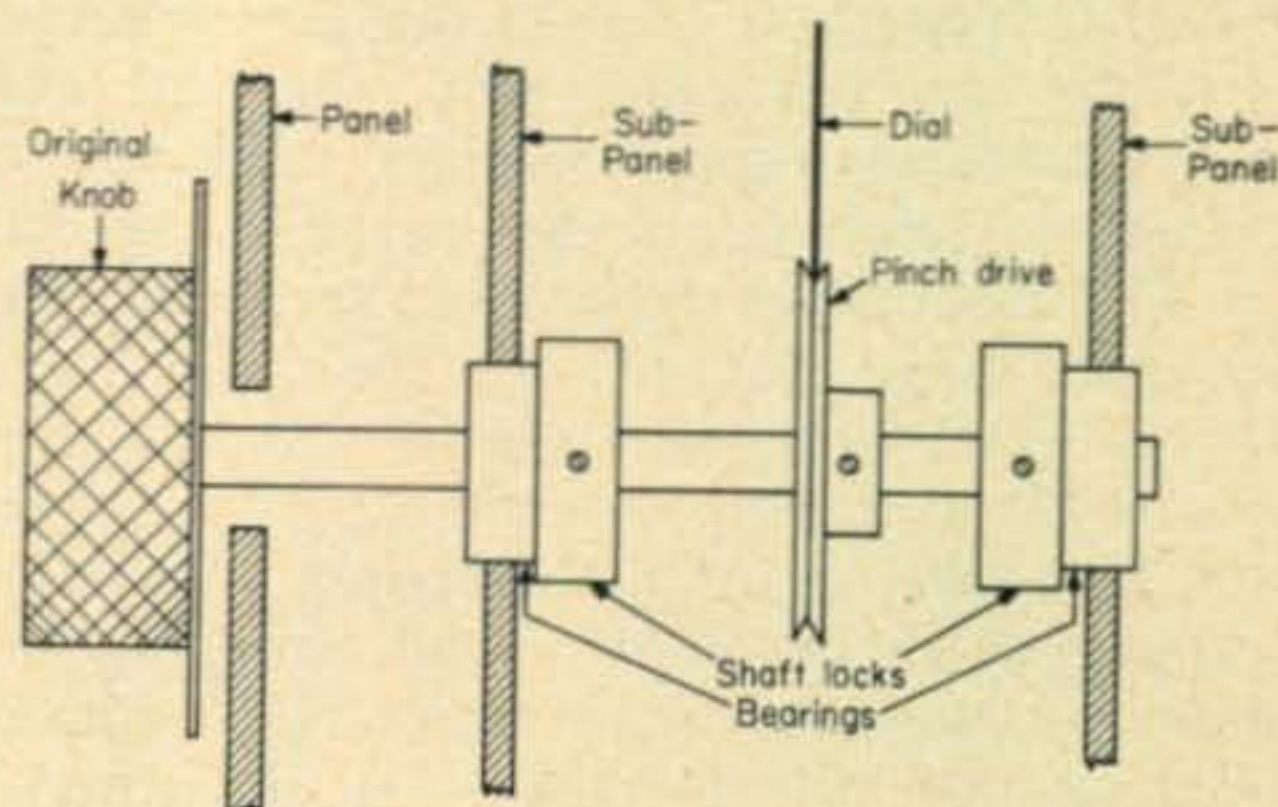
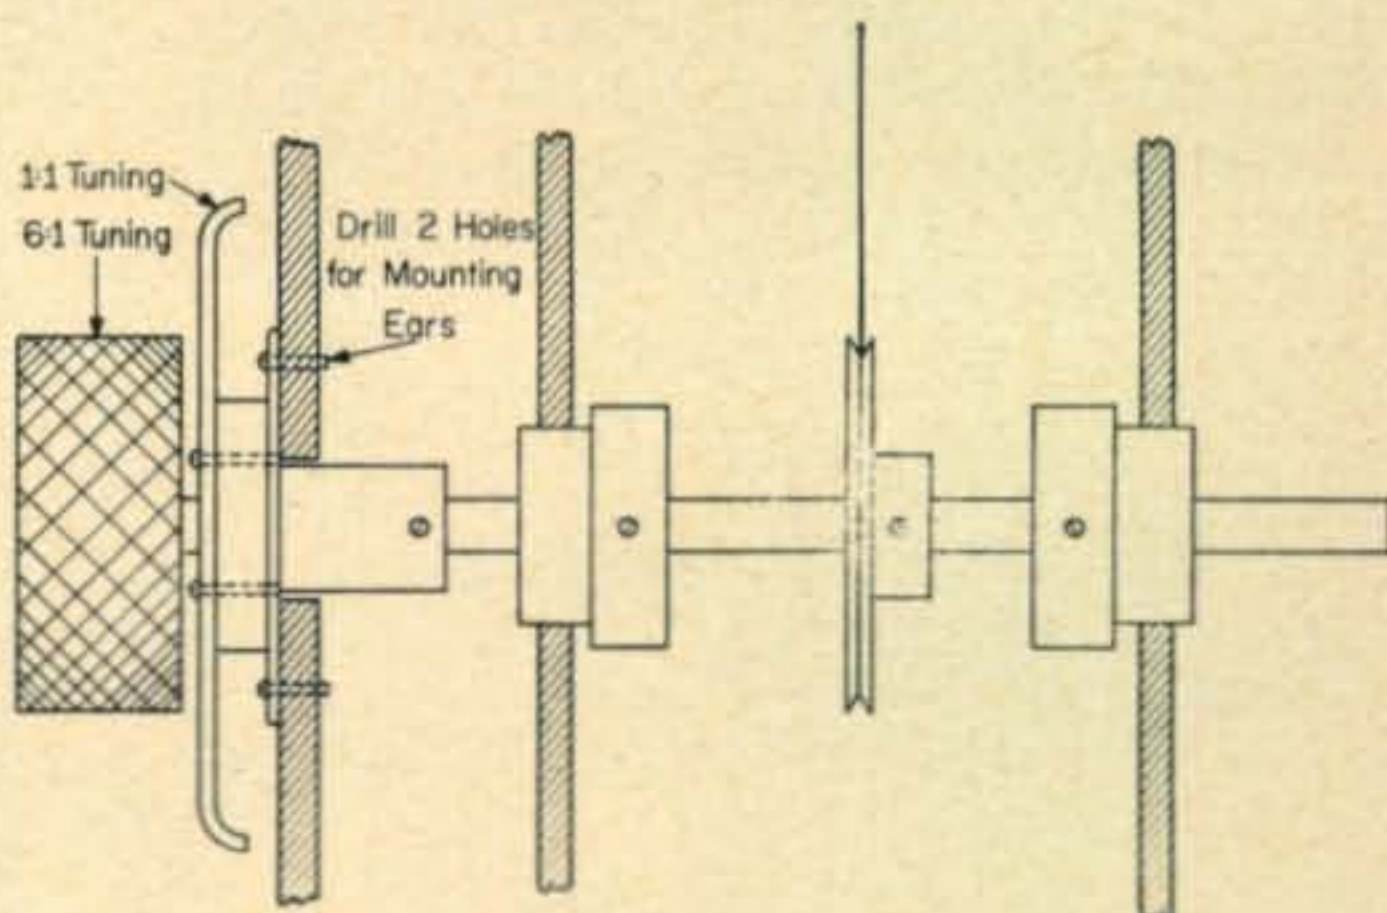

Fig. 2—Dial drive system of the TMC GPR-90 receiver. The tuning shaft is supported and aligned by the shaft lock bearings and the pinch drive turns the dial.
Fig. 3—Modified drive assembly with the 6:1 planetary drive added. The set screws on the shaft lock bearings are loosened to move the shaft back.
Installation of a swinging choke rated at 5-30 hy at 600-50 ma improved the regulation from 2300 volts no-load to 2000 volts full load. This improvement permitted a lower bias voltage but it was felt that further benefits could be obtained. Figure 2 (A) shows the basic circuit but while the load idling current is 90 ma, the bleeder current is 100 ma. This lowers the swinging choke inductance and prevents the choke from working under ideal conditions. By moving the bleeder to the other side of the choke, as shown in fig. 2 (B), the current through the choke is reduced considerably. The no-load voltage was then 2075 volts with a full-load voltage of 2000 volts, certainly an acceptable figure.
Fig. 3—The safety bleeders can serve to discharge the capacitors if main bleeder or choke opens and when the capacitors are in series the 2.2 meg resistors also serve to equalize the voltage distribution.
A bleeder resistor used with a swinging choke as shown in fig. 2 need not draw as much current as when it is used with a smoothing choke since its function is not to regulate but discharge the capacitors. For a capacitor operated at 2000 volts a resistor of 2.2 megohms, 2 watts, may be used. For 4000 volts, should 2 capacitors, 2000 volts each, be placed in series, the 2.2 meg resistors would serve to both discharge the capacitors and equalize the voltage drops as shown in fig. 3.
After operating a period of time with the circuit of fig. 2, the swinging choke winding shorted to the case, not an uncommon happening in high voltage power supplies. Not wishing to discard the choke, it was transferred to the center tap lead as shown in fig. 4. Be sure the shorted side is at ground as shown. If a bleeder is used, be sure it is connected so as not to draw current through the choke as shown.
Remove the existing receiver tuning knob and slip back the tuning shaft. (See fig. 2.) Ream out the hole in the panel for ample clearance of the  $\frac{3}{8}$ " coupler portion of the planetary drive. Slip the drive through the enlarged hole and